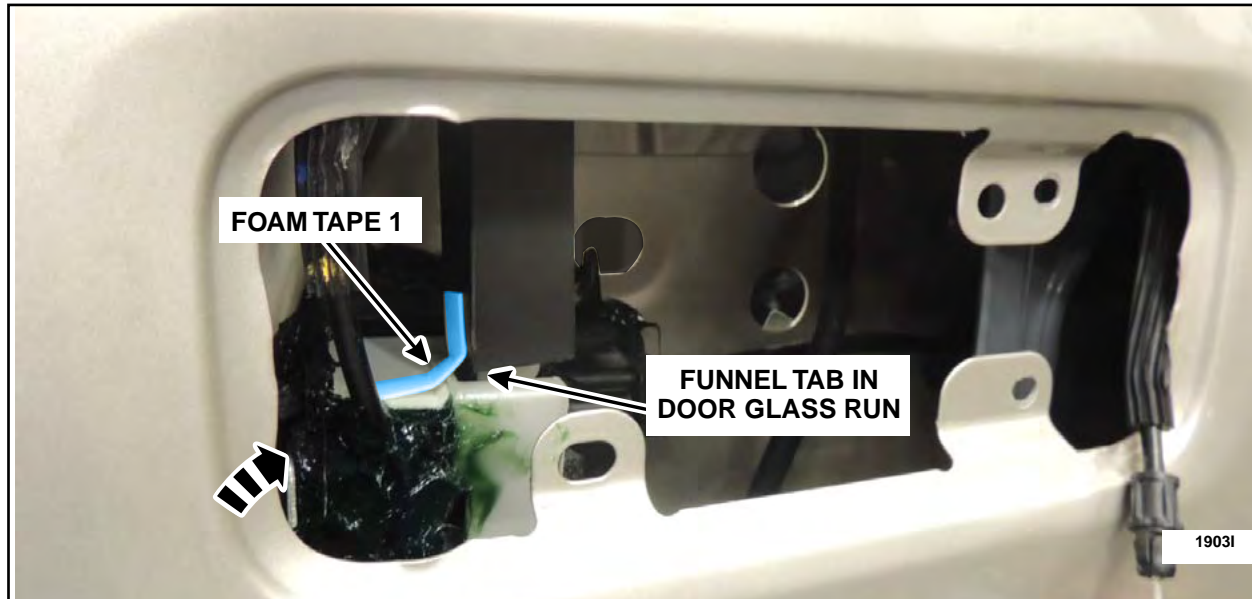

FIGURE 82
11. Apply supplied Foam Tape 1 in the location shown to hold the funnel in place. See Figure 82.